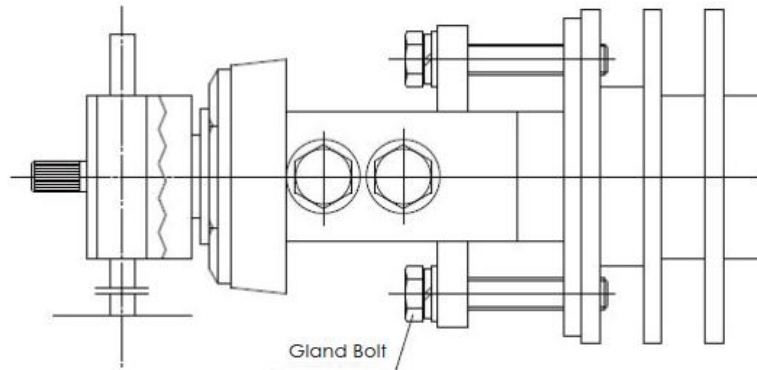

Figure 10 Float Ball Sealing
6.3.5 The sealing packing ring of the float ball is pre-tightened by pressing at the factory. When the pressure is applied, when the pressure and temperature of the medium rise, tighten the gland bolt on the packing ring, and tighten the hammer while tightening. The rod rotates the principal axis to see if it is still flexible until it does not leak, as shown in Figure 10.